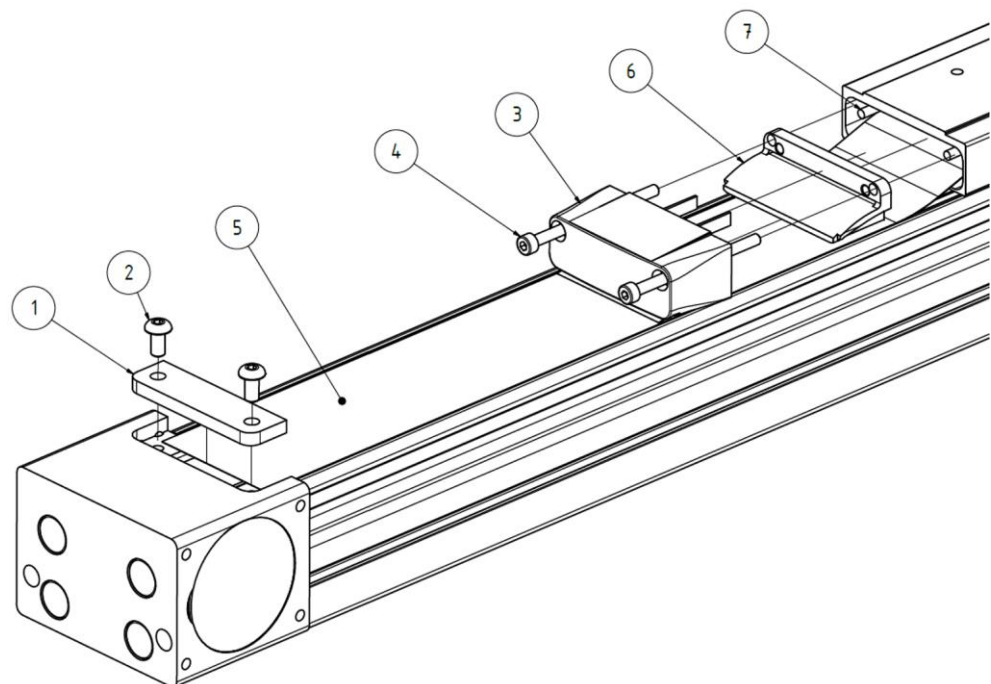

Figure 13: Disassembly of steel strip cover
- ◆ Loosen one of the steel strip cover terminal strips (see Figure 13, Pos. 1) Do not entirely screw-off screws
- ◆ Steel strip cover releases automatically (see Figure 13, Pos. 5) as soon as the terminal strip was loosened.
- ◆ Retighten the screws of the steel strip cover terminal strips (see Figure 13, Pos. 2) with the tightening torque (see page 43) indicated and resume operation of the linear axis (of the entire system).
- ◆ Loosen screws (Figure 13, Pos. 2) of the steel strip cover terminal strips on both deflection stations (Figure 13, Pos. 1) and remove terminal strip.
- ◆ Remove screws of both carriage lids (Figure 13, Pos. 4) and remove carriage lid (Figure 13, Pos. 3).
- ◆ Carefully pull out steel strip cover (Figure 13, Pos. 5).
- ◆ Carefully pull out steel strip deflections (Figure 13, Pos. 6) and steel strip sliding rods2 (Figure 13, Pos. 7).
- ◆ Thread the steel strip deflectors (Figure 13, Pos. 6) left and right onto the steel strip cover. When installing the old steel strip deflectors, clean them before reinstalling them.
- ◆ Carefully push the steel strip sliding rods (Figure 13, Pos. 7) through the carriage profile and the steel strip covers. Make sure that the steel strip sliding rods are seated in the profile over the entire length of the carriage and do not hang out downwards.
- ◆ Fit the carriage lid (Figure 13, Pos. 3) on both sides and tighten the screws (Figure 13, Pos. 4) to the required tightening torque (see Table 13). Clean the lip seal before assembling the old lid.
- ◆ Clamp the steel strip cover (Figure 13, Pos. 5) with steel strip cover terminal strip (Figure 13, Pos. 1) on one of the two deflection station. Tighten screws with the respectable tightening torque (see Table 13).
- ◆ Smooth the steel strip cover (Figure 13, Pos. 5) in the direction of the second deflection station by hand and clamp it to the deflection station using the steel strip cover terminal strip. Tighten screws to the respectable tightening torque (see Table 13).
Tightening torque of the carriage lid (Figure 13, Pos. 4)
Tightening torque Steel Strip Option (Figure 13, Pos. 2)